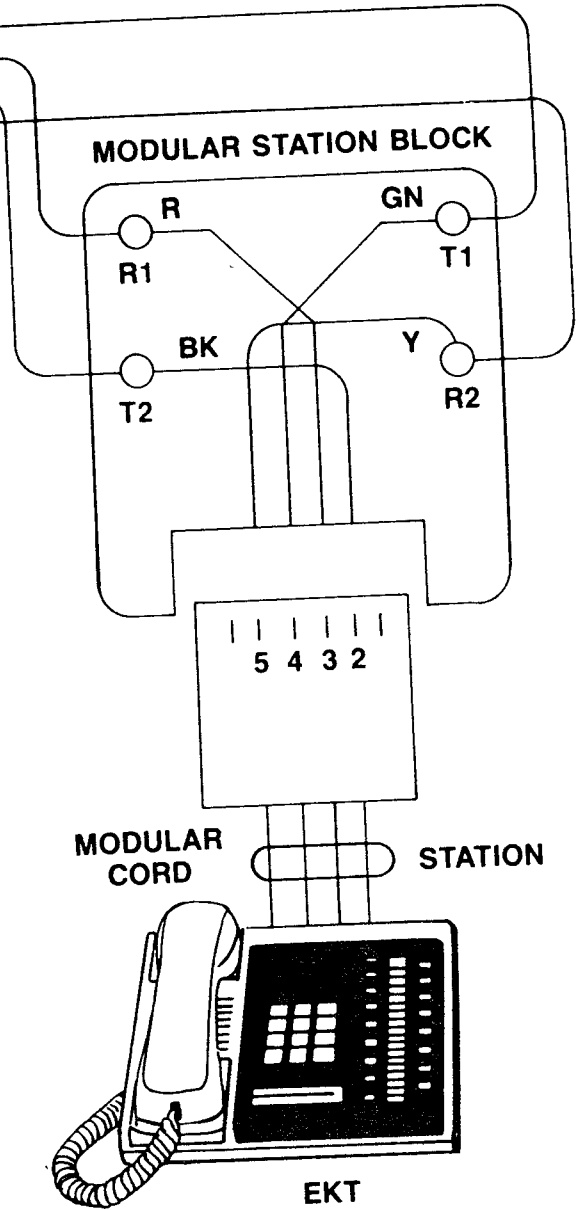

FIGURE 23—MDF/EKT WIRING
08.14 Refer to Figure 23, and route the cable from #1 MSTU (stations 10~17) to Block 1, cable from #2 MSTU (stations 18~25) to Block 2, etc.
blocks as shown in Figure 23. (Use one side of each block for each cable.) Figure 23 is generic, in that it shows the basic diagram for each MSTU. Use Tables C and D for correct cross-connect data for all stations in both systems.
08.25 Figure 23 shows the EKT wiring arrangement.
08.26 Various manufacturers of modular station blocks have employed different color codes to indicate the sequence of pairs in their blocks. However, the color code most commonly used is shown in Figure 23. Verify the configuration of your modular blocks before connecting the station cables.